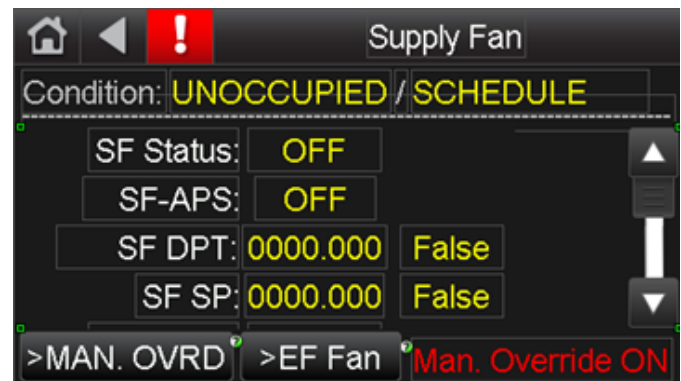

Fig. 10 — Supply Fan Status Screen
The Supply Fan Status screen shows the status and parameters for the supply fan (SF) and the clogged filter indicator (CFI). See Fig. 10.